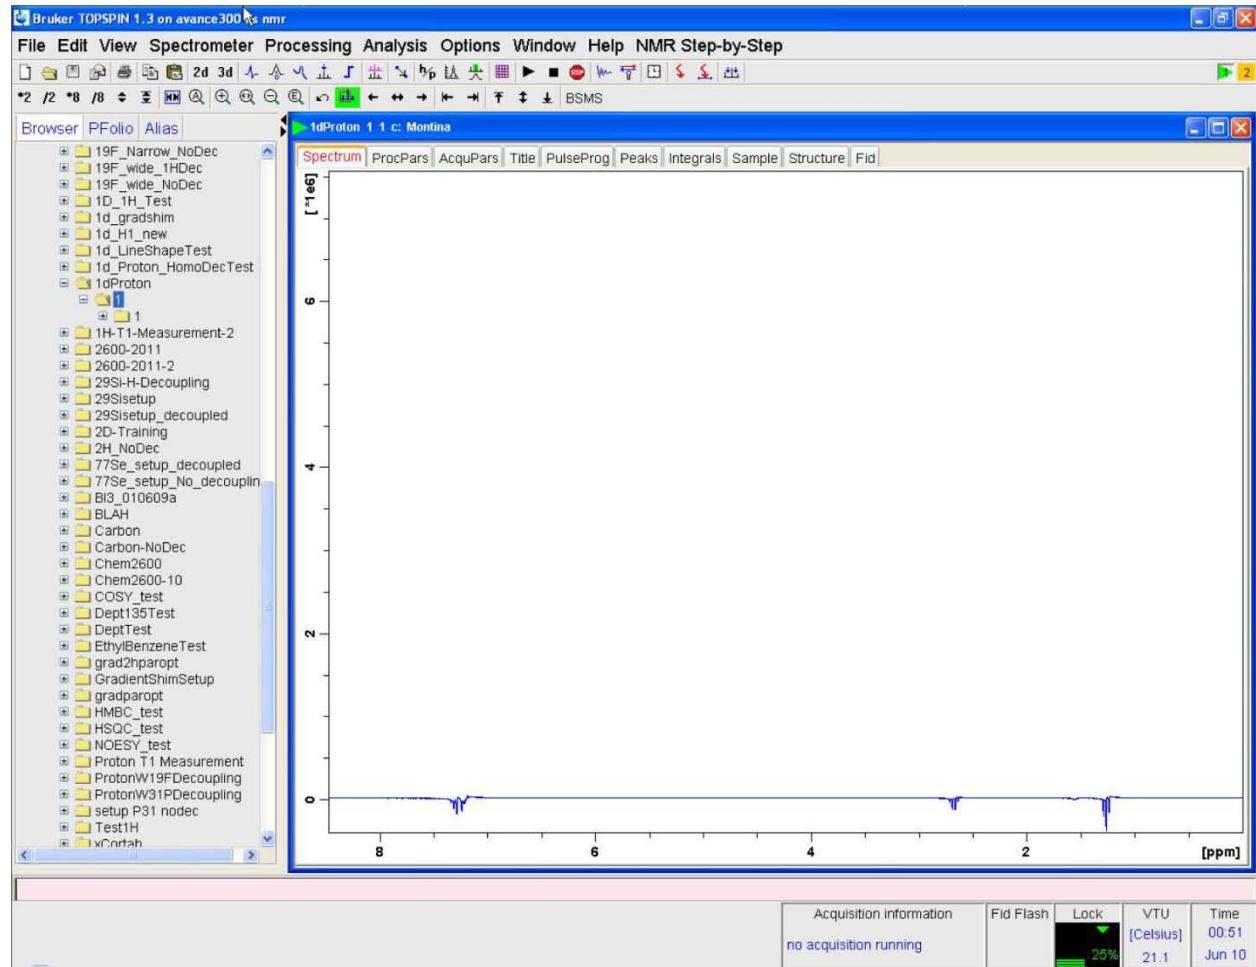

Figure 19 Spectra obtained following a FT of the FID shown in figure 19.
(16) Now that your data has been exponentially multiplied it is ready to be Fourier transformed. You can carry out a Fourier Transform (FT) by left clicking on “Fourier Transform” in the NMR step-by-step menu. The spectra resulting from the FT can be seen in the Spectrum tab (shown below in Figure 19).